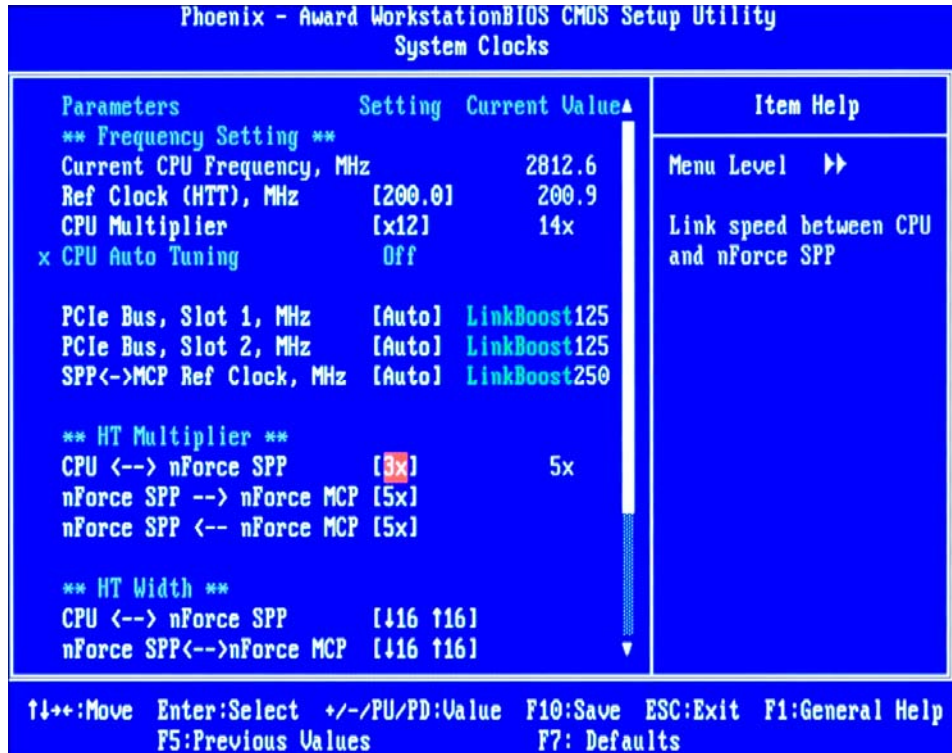

Figure 10. BIOS System Clocks Configuration for CPU Overclocking
3. Change the **System Clocks** settings to the values shown in Figure 10.
3. Change the **System Clocks** BIOS menu settings so they have exactly the same values as shown in Figure 10.